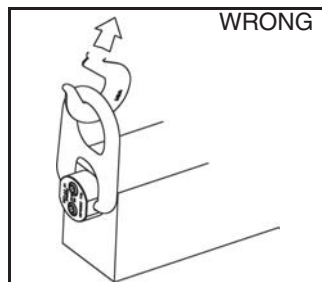

Figure 2
- Apply partial load and check proper pivot. Ensure load alignment is in the direction of pivot (Figure 4). There should be no interference between load (work piece) and pivot hoist ring bail (Figure 2).